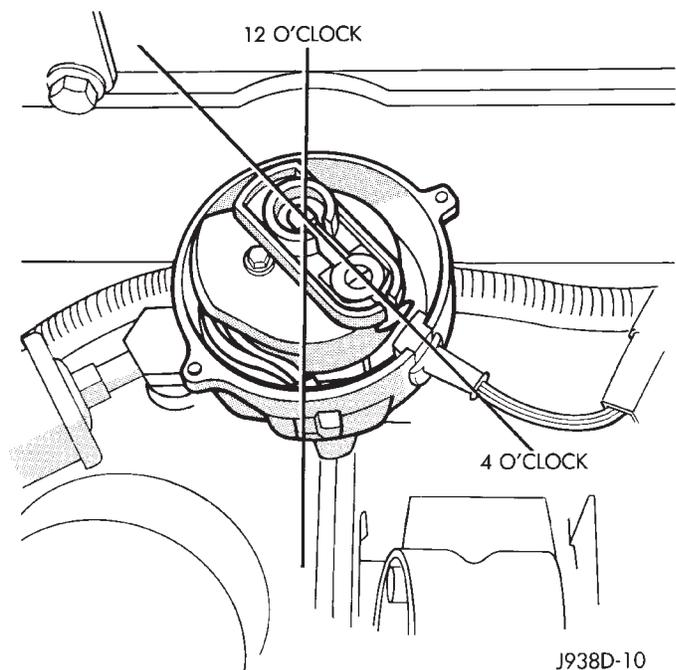

Fig. 19 Rotor Alignment
(7) Turn the rotor to the 4 o'clock position (Fig. 19).
(8) Slide the distributor down into the block until it seats. Keep the holddown ear aligned to the hole in the block.
(9) The rotor should be in the 5 o'clock position. This is with the trailing edge of rotor blade lined up with scribe mark on distributor housing (number one spark plug cable post location).